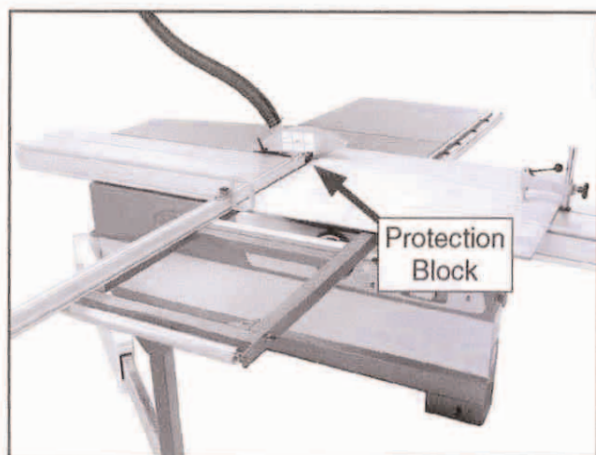

Figure 50. Typical rip cutting operation with a sliding table.
The Model W 718 easily rips 4' x 8' panels (Figure 50). The sliding table removes the burden of sliding a large and heavy panel over a stationary table surface.
5. Load the workpiece onto the table saw. The setup should look similar to Figure 50.